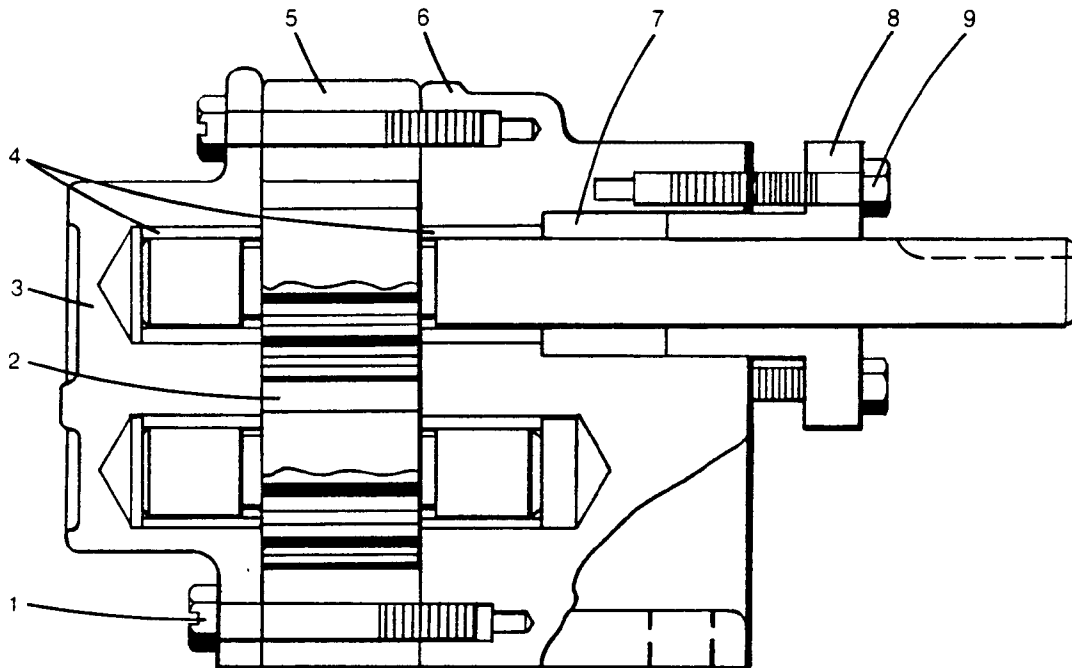

Fig. 2
- (c) Remove the gland screws (9 in Fig. 2) from the pump. Remove the gland (8) from the pump.
- (d) Remove the stand screws (1) from the pump. Remove the cap and bushings (3) from the pump. Also remove the